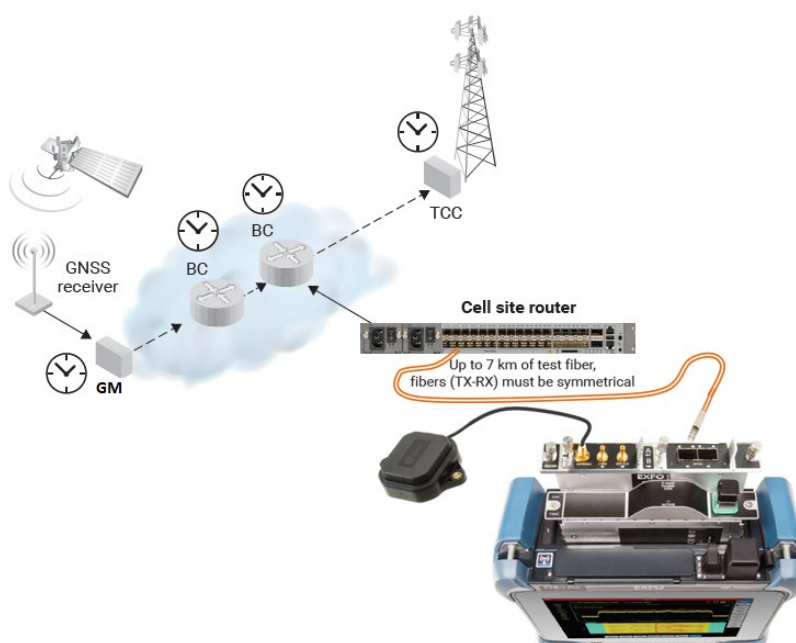

Figure 2. Setup for characterizing the synchronization performance of a wireless network.
When a synchronization issue occurs in the network, it may present itself as a different problem, like a rise in RSSI. To resolve this, an on-site investigation is crucial to uncover the underlying cause. The first priority is to test whether the 1588 PTP or SyncE protocols are being properly propagated and configured (e.g., address, domain settings). By connecting to the cell site router (CSR) and configuring EXFO's test solution as a 1588 client (see Figure 2), we can verify that the CSR successfully receives packets from the grandmaster (GM).